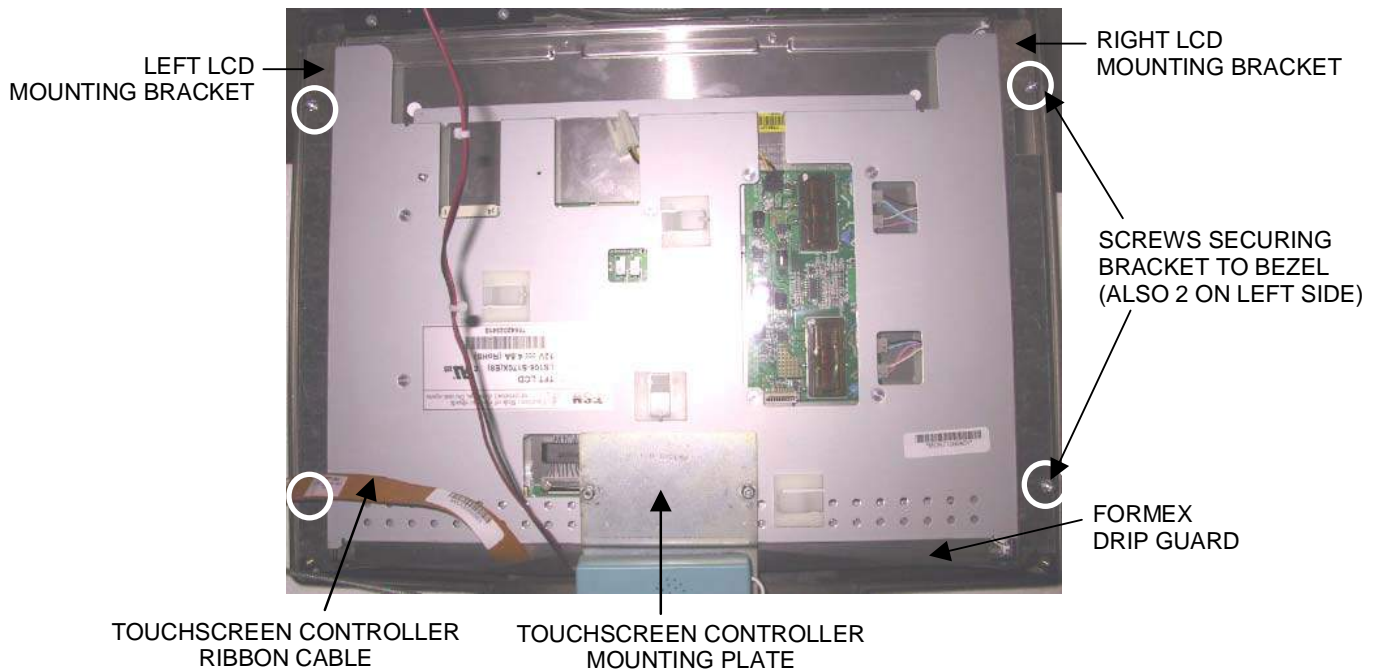
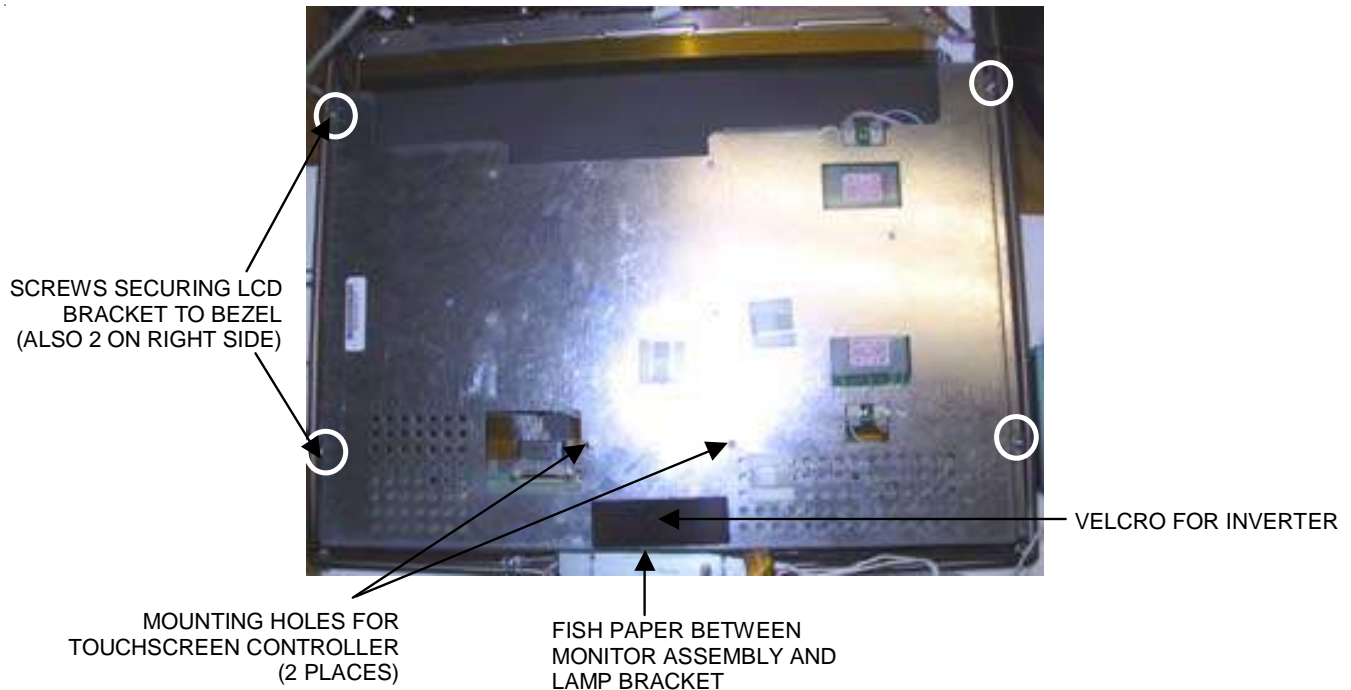

FIGURE 8 - REAR VIEW OF 17" MONITOR
FIGURE 9 - REAR VIEW OF 19" MONITOR
13. Remove the 4 screws securing either the left and right LCD mounting brackets to the bezel (17") or the LCD bracket to the bezel (19" and Widescreen), then carefully slide the monitor assembly out of the bezel. See Figure 8 for 17" games, Figure 9 for 19" and Widescreen games.
14. For 17" games: Remove the 4 screws securing the LCD mounting brackets to the monitor (2 per bracket). If replacing the monitor, remove the fish paper/foam tape strip attached to the top edge of the monitor. See Figure 8.
2. *If replacing only the monitor:* Carefully place the touchscreen over the new monitor in the same manner it was attached to the old monitor, making sure that the screen is properly and evenly aligned over the monitor glass. Clean the front of the touchscreen with an alcohol wipe once it is in place. Reattach the fish paper foam tape strip to the top edge of the monitor (17" games only; see Figure 8). You may need to attach the provided wire clamps to the rear of the monitor assembly. If so, note their location on the rear of the monitor your removed.
If replacing both the monitor and the touchscreen: Carefully place the new touchscreen over the new monitor in the same manner that the old touchscreen and monitor were attached, making sure that the screen is properly and evenly aligned over the monitor glass. Clean the front of the touchscreen with an alcohol wipe once it is in place. Reattach the fish paper foam tape strip to the top edge of the monitor/touchscreen assembly (17" games only; see Figure 8). You may need to attach the provided wire clamps to the rear of the monitor assembly. If so, note their location on the rear of the monitor your removed.
3. *For 17" games:* Replace the left and right mounting brackets on the monitor and secure each with 2 screws. Carefully slide the new monitor into the bezel, making certain that the edge of the monitor with the fish paper is secured underneath the touchscreen controller's mounting plate. Ensure that the monitor is properly centered, then secure the mounting brackets to the bezel with 4 screws. See Figure 8.
For 19" and Widescreen games: Carefully slide the new monitor assembly into the bezel, making sure (on standard 19" models) that the strip of fish paper is secured between the edge of the assembly with the Velcro and lamp mounting bracket. Ensure that the monitor is properly centered, then secure the LCD bracket to the bezel with 4 screws. See Figure 9.